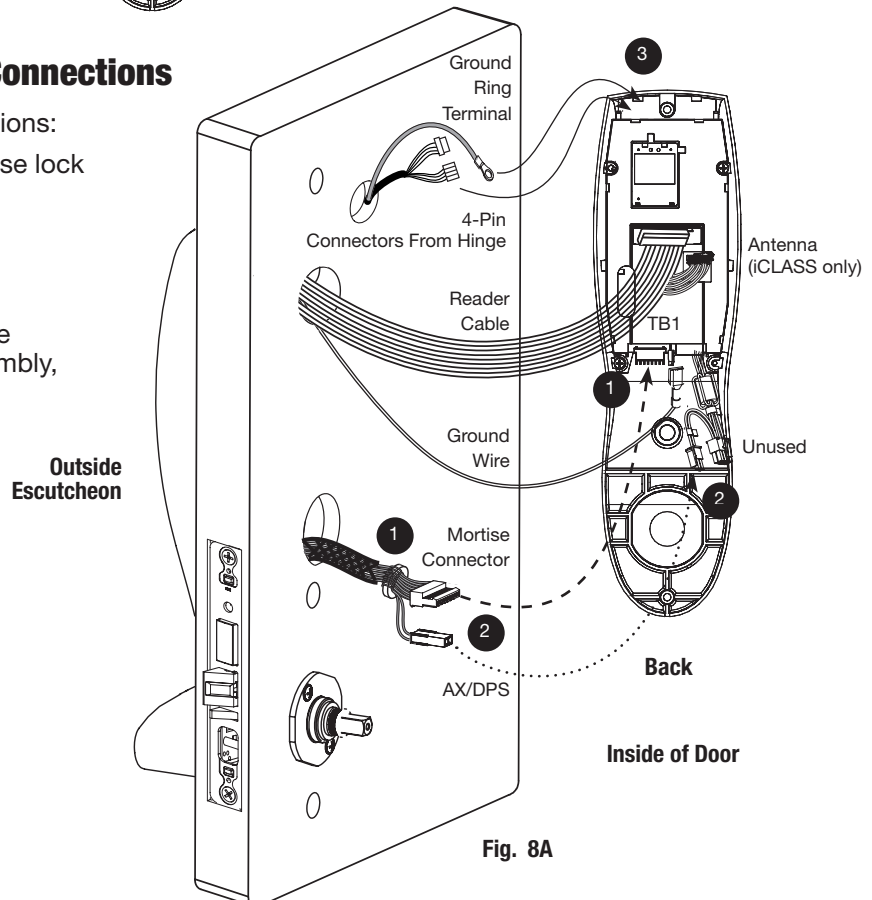

Fig. 8A
1. Connect the cable from the mortise lock to the bottom of the controller assembly (TB1, Fig. 8A).